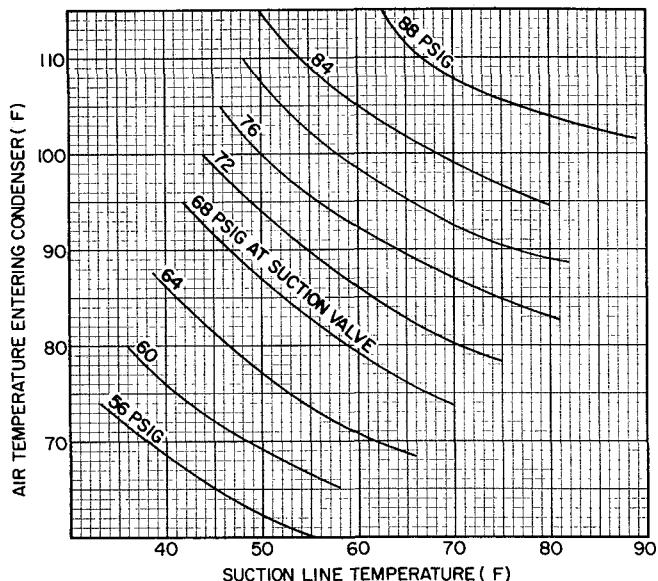

Fig. 6 – 38SE Charging Chart
**38SE CAPILLARY TUBE OR ACCURATER™ SYSTEMS** — Use Charging Chart, Fig. 6, and the following procedure:
5. Refer to Charging Chart (Fig. 6). Find condenser air temperature and project horizontally to curve showing suction pressure.